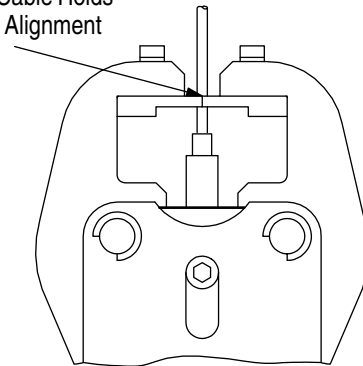

Figure 7
**5. TOOL SETUP** (Figure 7)
2. Loosen the locator locking screw, insert the locator into the tool head cavity, making sure that the locator is bottomed in the cavity, then re-tighten the locking screw. Refer to Figure 7, Detail A.
3. Select the proper die set for either RG-402 or RG-405 cable. Position each die on the respective tool jaw and make sure that the chamfer is oriented as shown in Figure 7, Detail A.
5. To align the dies, place the cable inside the locator and squeeze the tool handles to close the tool. Check for even alignment of the dies, as shown in Figure 7, Detail B, then tighten the screws to secure the dies.